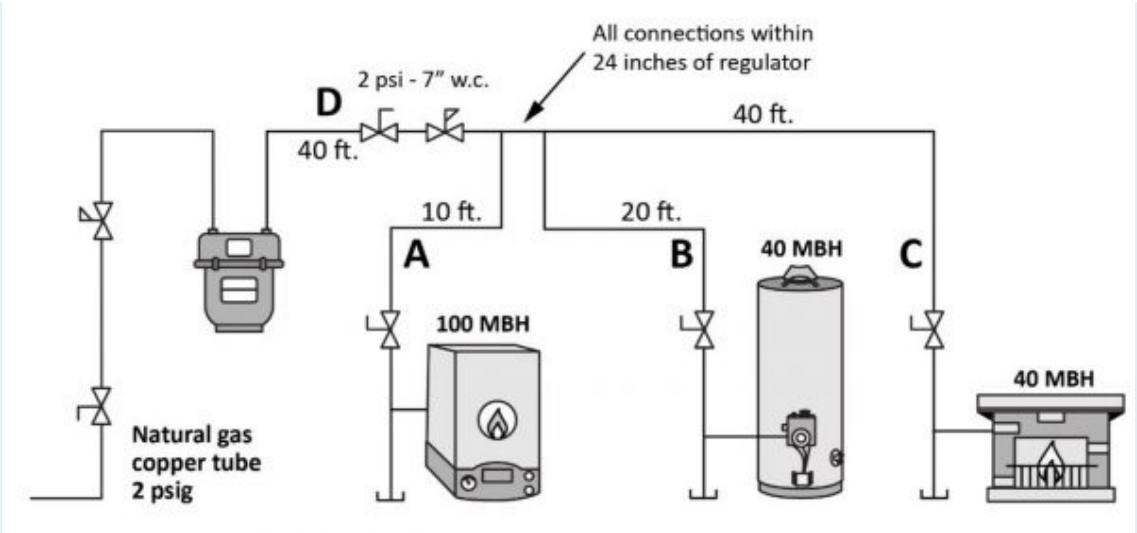

Figure 6
3. Size the drawing in Figure 6 and show all calculations.
- Figure 6 by Camosun College is licensed under a CC BY 4.0 licence.